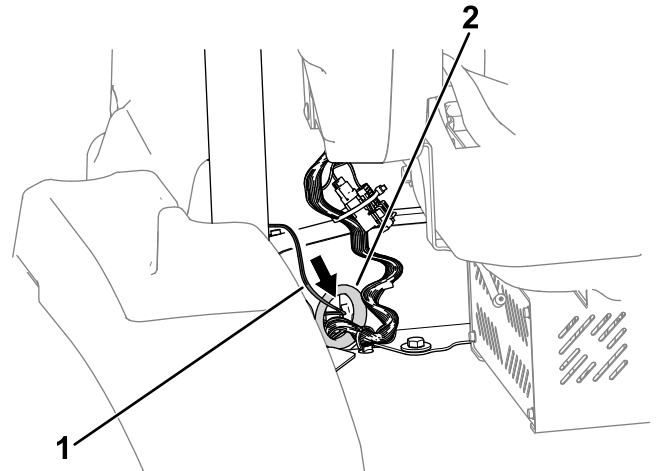

Figure 8
2. Route the wire-harness end labeled P08 through the platform grommet (Figure 8).